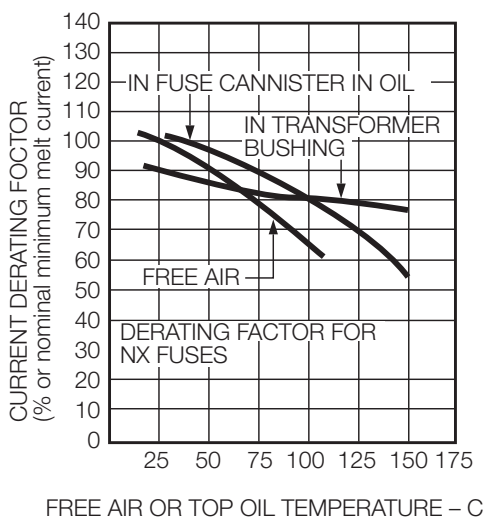

Figure 9. Derating curves for NX fuse application at raised ambient temperatures.
To determine the proper NX fuse size for carrying desired current and percent overload available at raised ambient temperatures, the minimum-melt current must be derated. The curves in Figure 9 show the derating factors for NX fuse applications at raised ambient temperatures in air, in canisters suspended in oil, and in transformer bushings. (These curves are based on a six-hour melting time, not the maximum pre-melt current.)
1. On Figure 9, draw a vertical line at 75°C to intersect the free-air curve.